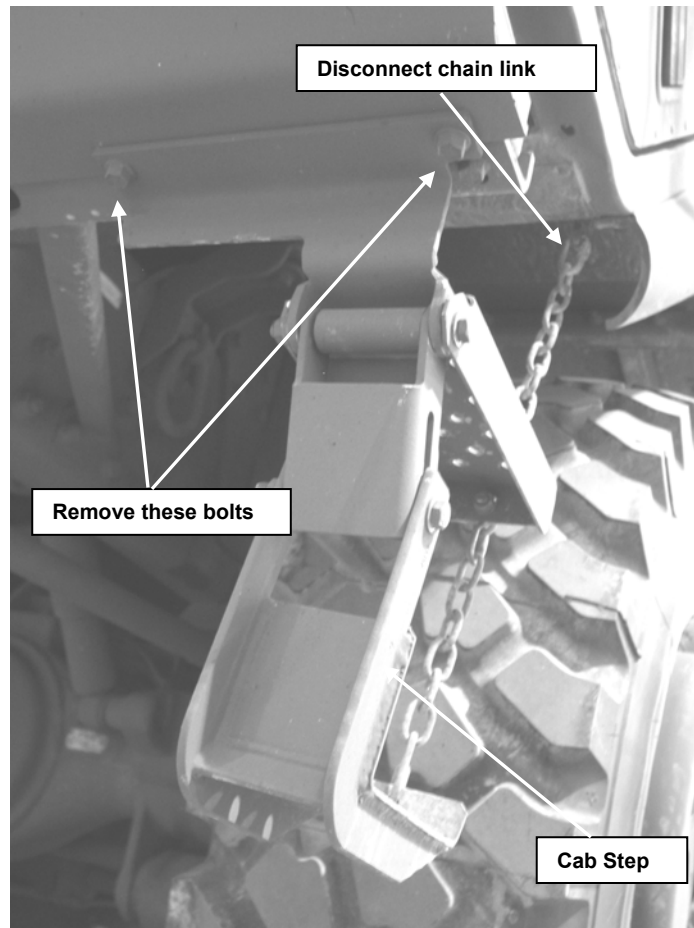

Figure 4. Cab Step.
- c) Remove the right and left Cab Steps mounted under the cab. This is done by removing two bolts and disconnecting the link that is attached to the bottom of the cab (see Figure 4).